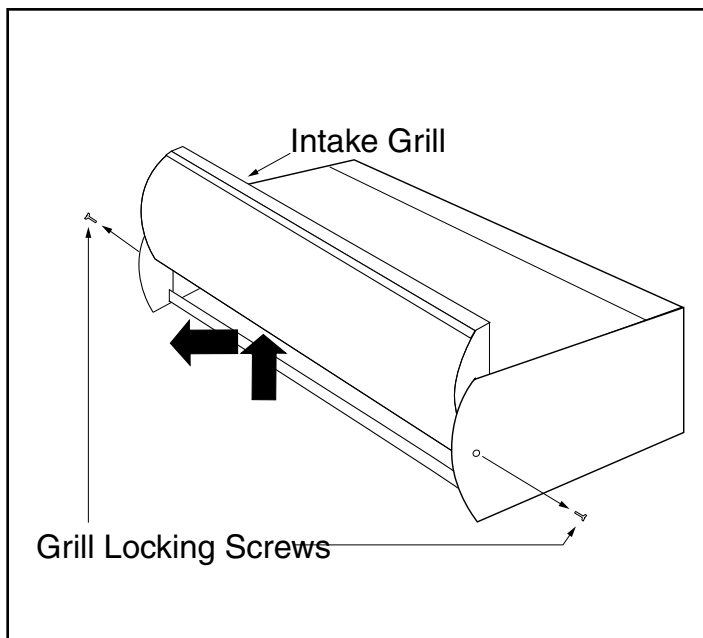

Figure 10
2. Remove the intake grill by removing the locking screw on each end of the unit. Lift the intake grill up and then towards you. **See Figure 10.**